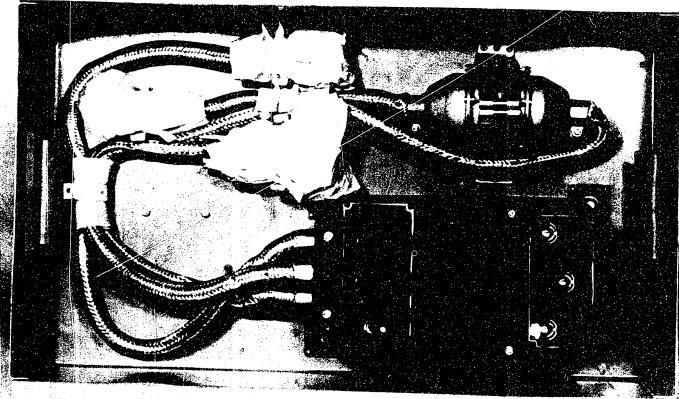
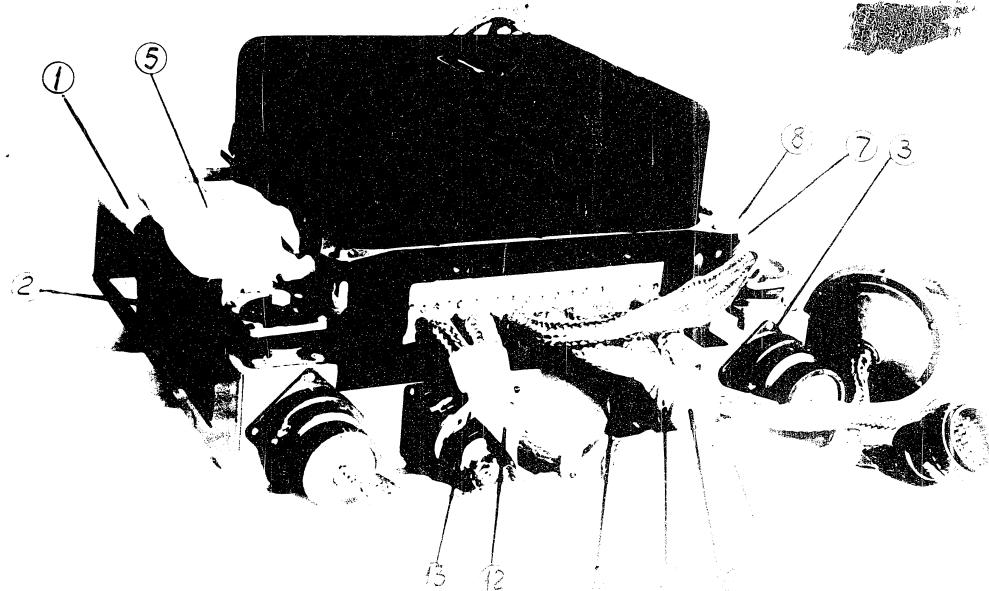

Fig.2. H-1 Control Panel-to-Mounting Attachment
Fig.3. H-2 Gyro Unit-to-Mounting Attachment
of the mounting (1, Fig.2) and secure it by 4 screws with
the mounting (1, Fig.3) and secure by 3 bolts. Attach the
the tape with the button (13, Fig.3).
Prior to installation, place in each mounting a bag (5, Fig.2 and 3) with "white" silica gel dehydrator, 100 gr. (FOCT 3556-47) and in the Ir-2 gyro unit mounting, a bag (6, Fig.3) with blue silica gel dehydrator, 10-20 gr.
3. If a cartridge with silica gel + dehydrator is placed in the case, the bag (5) with silica gel indicator should not be put in the case.
4. When packing the Ir-2 gyro unit (manufactured with plug No.42) which is incorporated in the autopilot set installed in the V-10 missile, place in the case the cap for the above mentioned plug; attach the plug to the clamp (6, Fig.2).